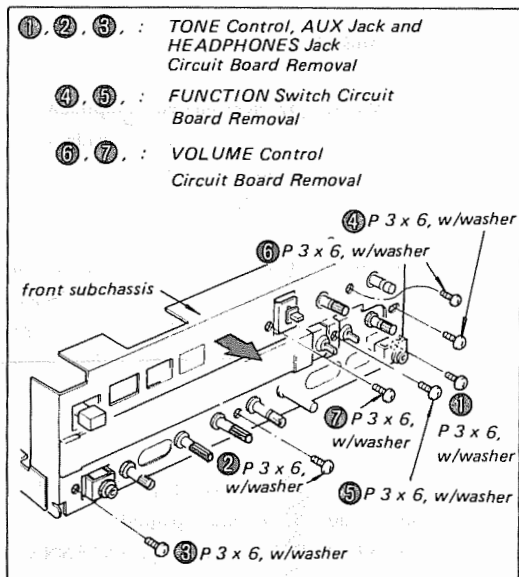

Fig. 2-5.
2. Remove three screws (① - ③) as shown in Fig. 2-5.
2. Remove two screws (④, ⑤) as shown in Fig. 2-5.
2. Remove two screws (⑥, ⑦) as shown in Fig. 2-5.